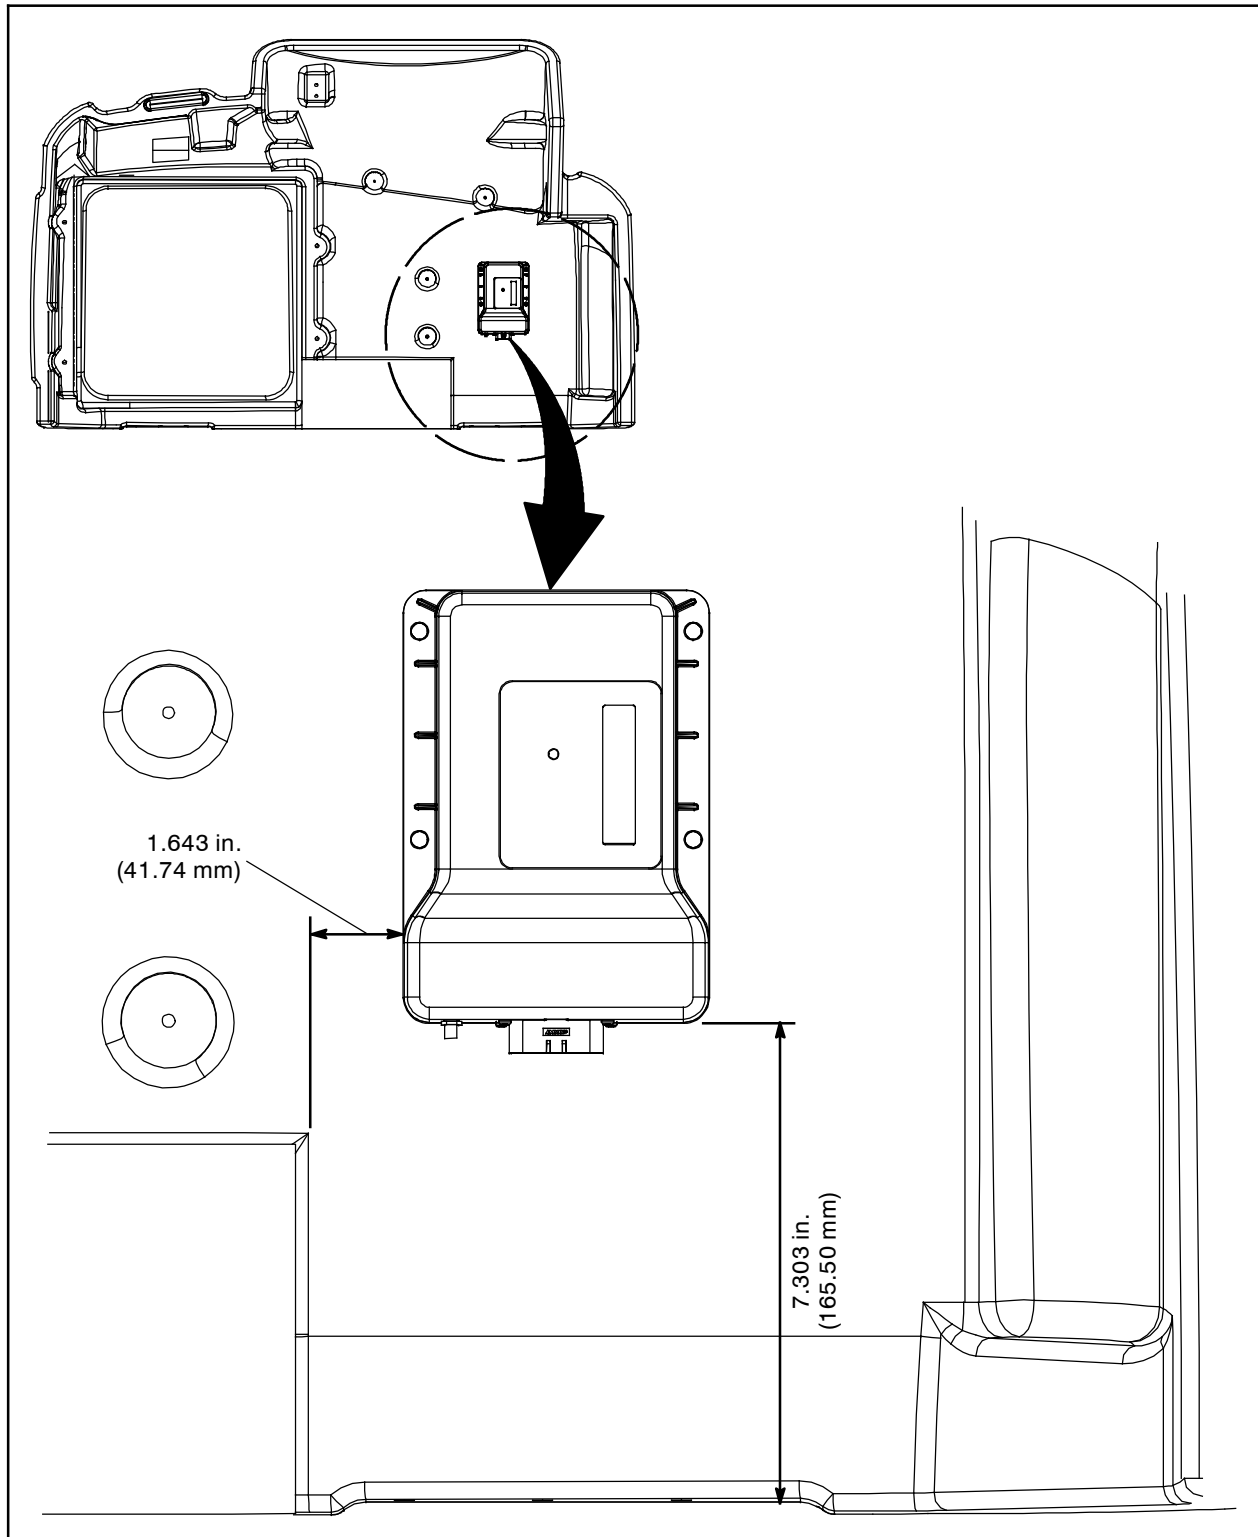

FIG. 2
2. Use the measurements in Fig. 2 to position the telemetry module (1) onto the front shroud and drill a 1/8 in. (3.1750 mm) hole through each existing hole in telemetry module and the inner surface of the front shroud. **Do Not** drill into the front surface of the front shroud.